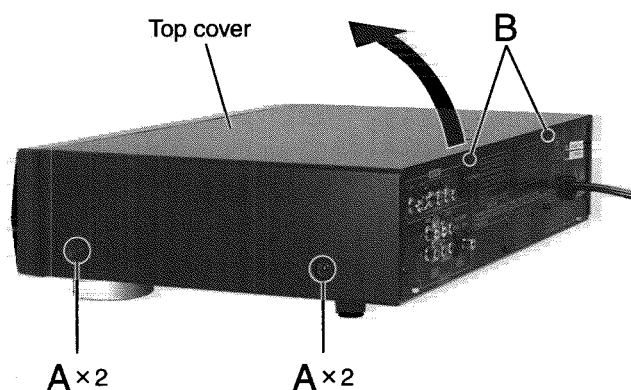

Fig.1
■ Removing the Top Cover (See Fig.1)